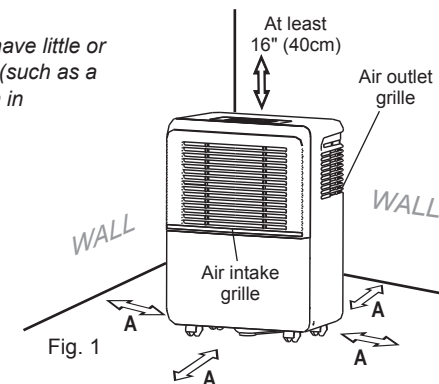

Fig. 1
- Allow at least 8" (20cm) of air space on all sides and 16" (40cm) above for adequate air circulation. (Fig. 1)